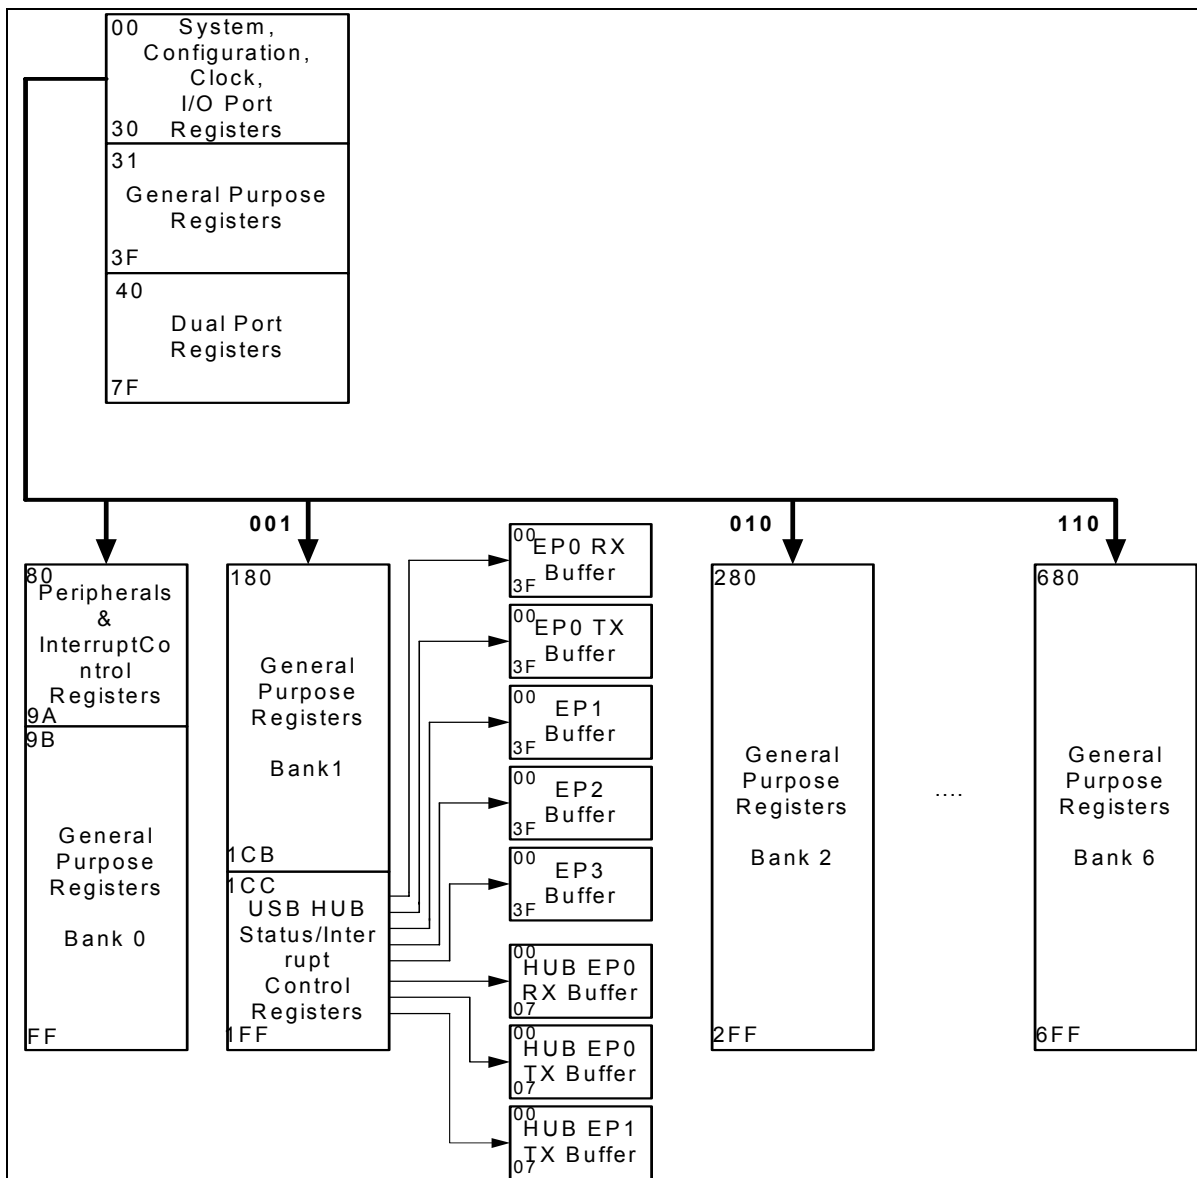

Fig. 6-2 Data Memory Configuration (RAM) of EM77F900
A total of 1368 accessible bytes of data memory are available for the EM77F900. By function, they are classified into general purpose registers, system control / configuration registers, specification purpose registers, USB control/status registers, baseband (BB) control/status registers, SPI control/status registers, timer/counter registers, and I/O port status/control registers. All of the above registers except I/O ports and their related control registers are implemented as static RAM. The RAM configurations are shown in Fig. 6-2.